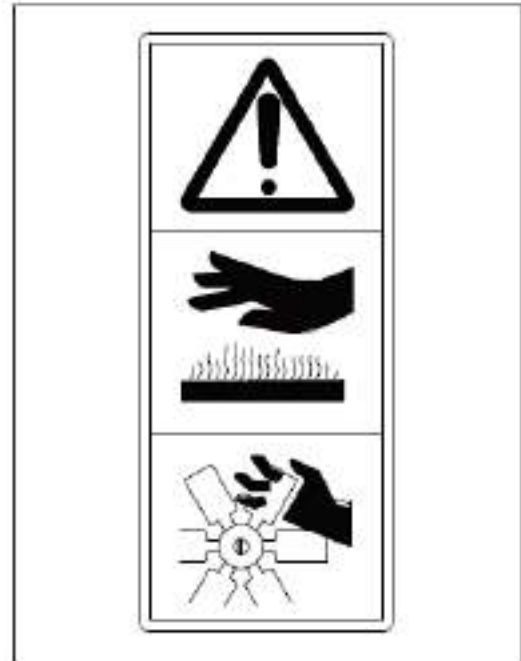

Figure 1-5 Engine warning sign
(4). Engine warning sign, as shown in figure 1-5.